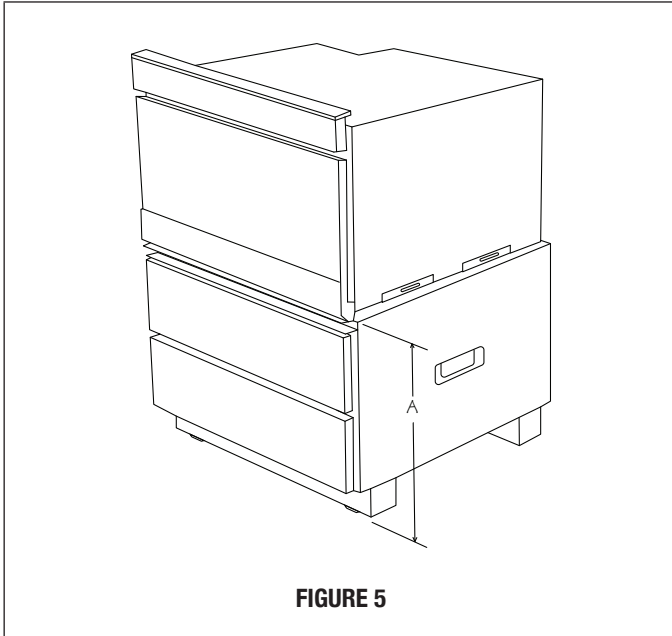

FIGURE 5
5. Once the overall height has been confirmed, measure the distance from the top surface of the pedestal unit to the floor. See Figure 5. This measurement will be needed for the installation of the wooden mounting cleats.